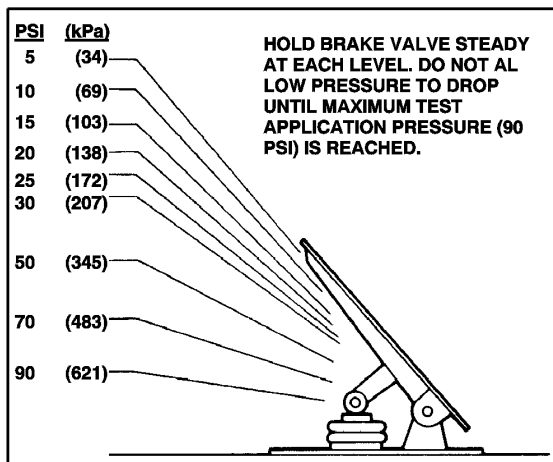

Figure 19 Brake Test Application Pressures
3. **Check pressure balance as follows:** While observing the duplex gauge, slowly apply the service brakes in increments of 5 psi from 5 to 30 psi (34 kPa from 34 to 207 kPa) and increments of 20 psi from 30 to 90 psi (138 kPa from 207 to 621 kPa) respectively, as shown in Figure 19 . As each pressure increment is reached at the **tractor's** rearmost axle, note and record the pressure reading for the **trailer's** rearmost axle. Repeat this step three times.